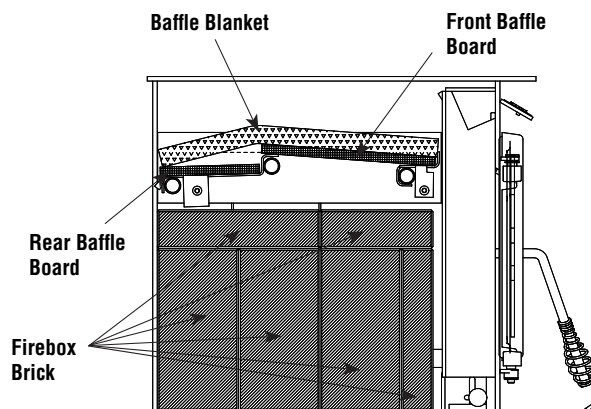

Figure 4
4. The final step of the baffle board & baffle blanket installation will be installing the front baffle boards. The front baffle boards will be the two remaining baffle boards which are the larger two baffle boards of the four baffle board kit. They will be installed with the 9-5/8" dimension from the front to rear of the firebox. Start by setting the back side of the board on the rear baffle making sure that it is placed far enough back to lift up and onto the front baffle. Next you will place the front edge of the front baffle boards on the top side of the front baffle and slide them towards the firebox front until it stops against the front baffle edge. You will do this with each front baffle board with one to the right side of the firebox and one to the left side of the firebox. Confirm that the baffle blanket is directly on top of the baffle boards and that it does not protrude beyond the front baffle or front baffle boards as shown in **Figure 4**.